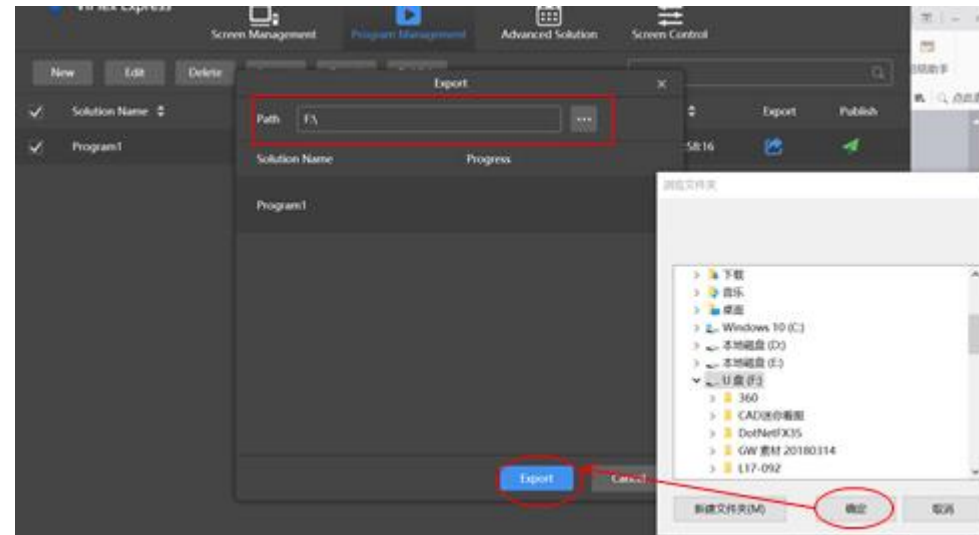

fig 7.21
b. Choose the save path and folder in USB, click [Ok]→ [Export], please refer to fig 7.21.